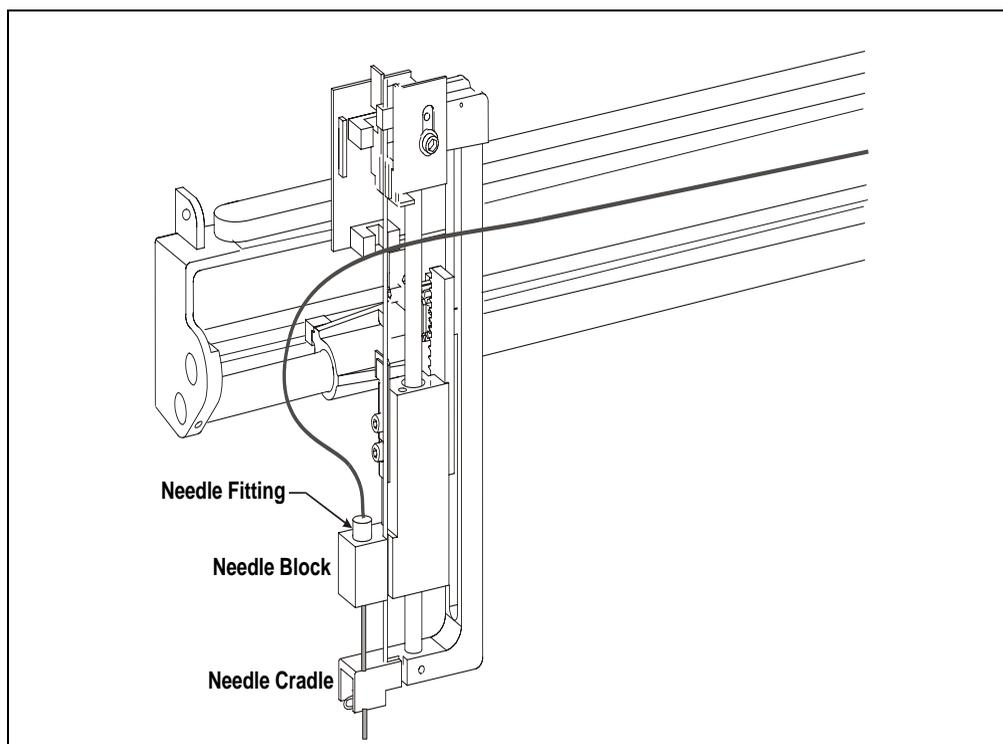

Figure 5-6. Removing the Needle from the Cradle
12. Turn the needle fitting above the needle block (see Figure 5-6) counterclockwise until it is loose.